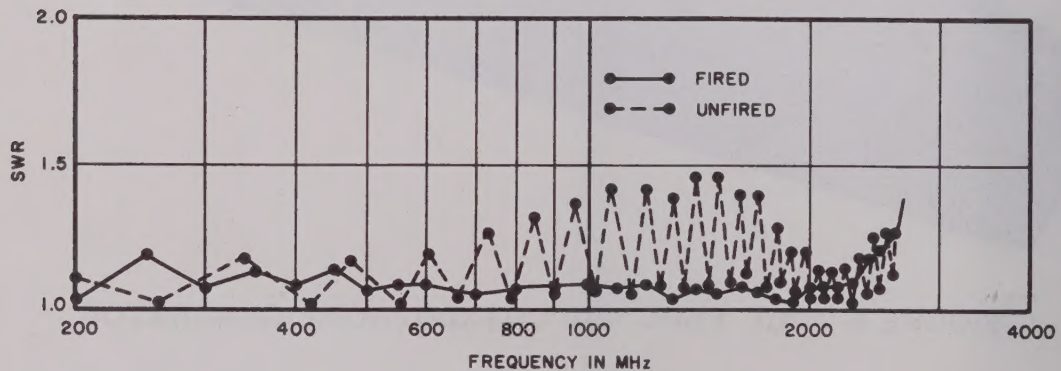

FIGURE 2. TYPICAL SWR (FIRED AND UNFIRED)
* When terminated with a 50-ohm load having an SWR of 1.05 or less (Figure 2).